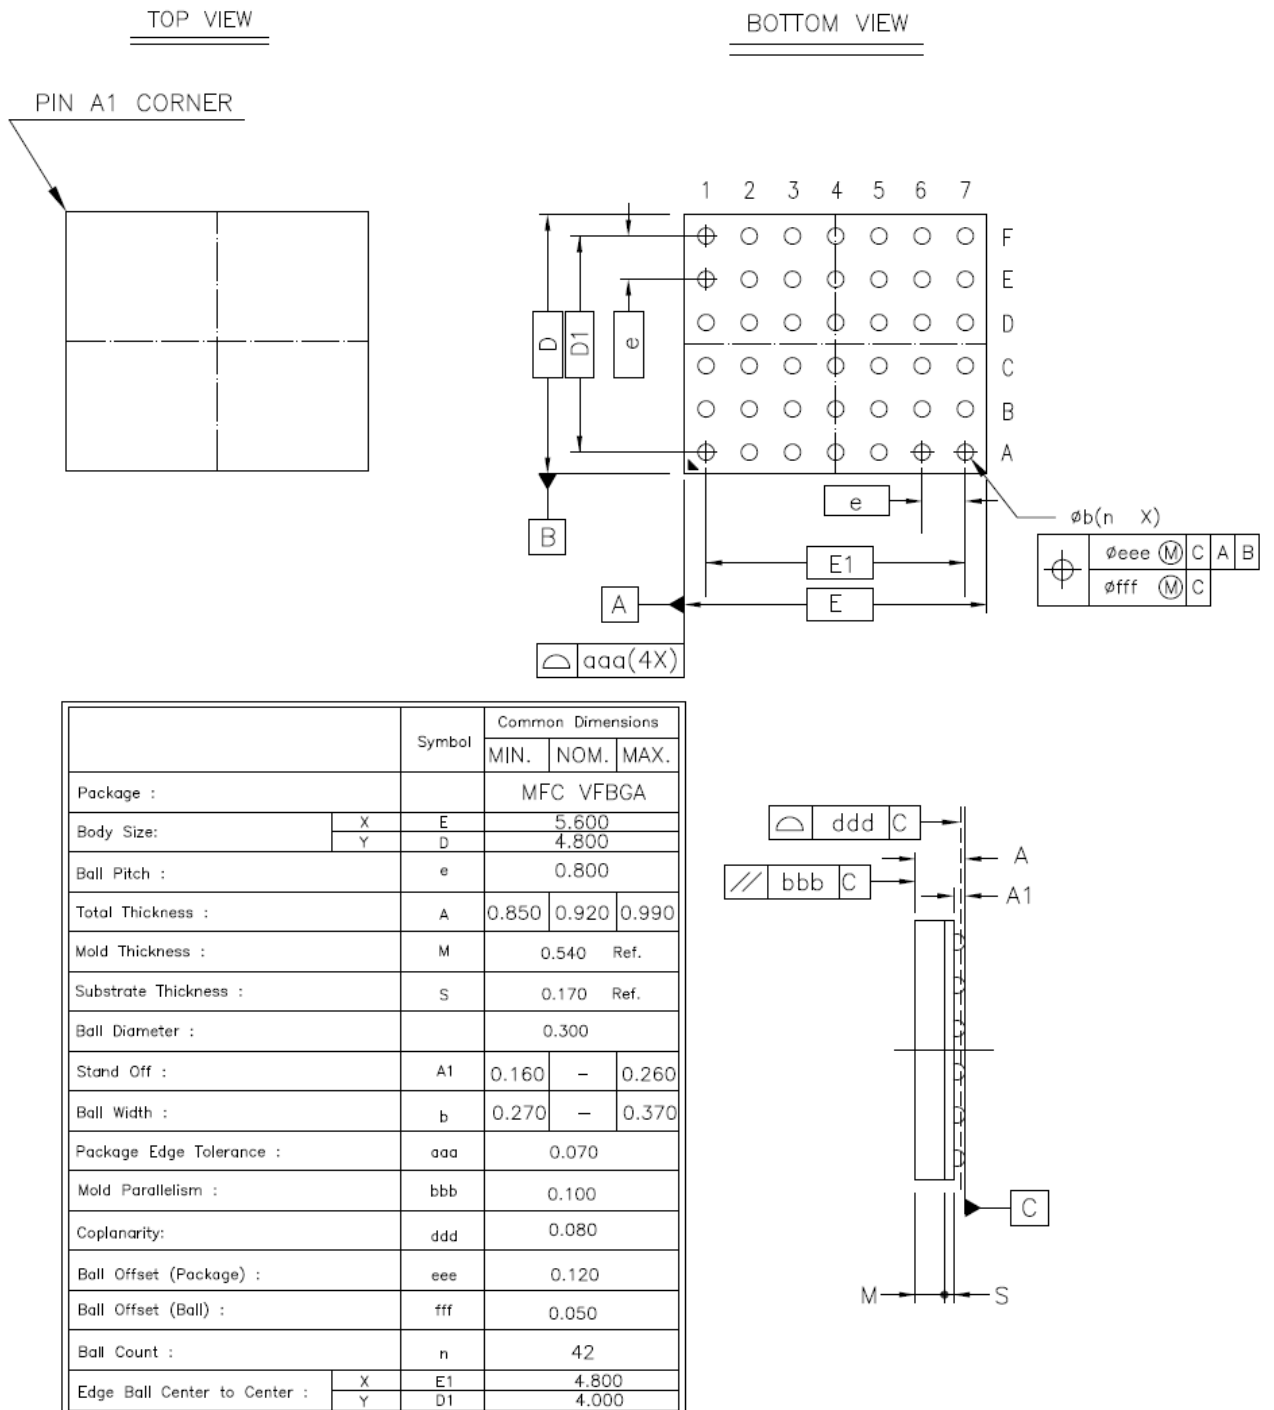

Figure 3: DA9210 42 VF-BGA package drawing
- Figure 3: DA9210 42 VF-BGA package drawing 7